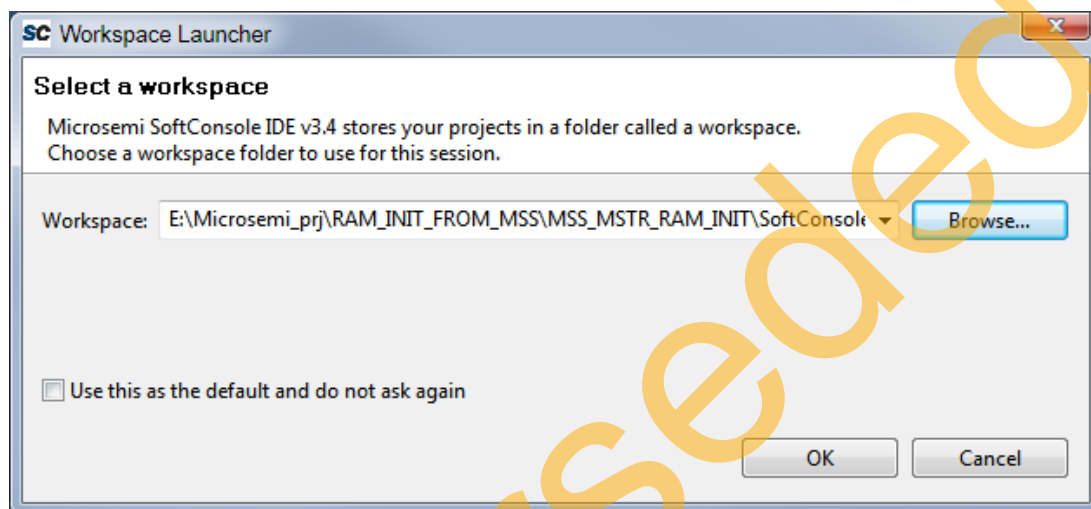

Figure 10 • Specify the SoftConsole Workspace Location
3. Launch the **SoftConsole v3.4SP1** and browse to the location of SoftConsole folder project where the Libero project is created as shown in Figure 10.